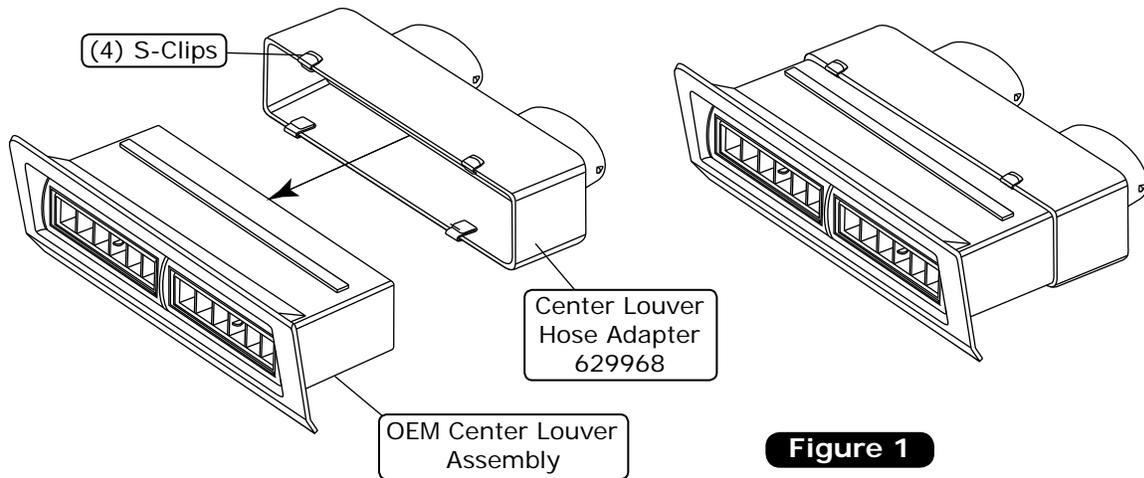

Figure 1
2. Install the 90° fitting from the #6 drier/evaporator A/C hose onto the expansion valve on the evaporator unit using a properly lubricated #6 O-ring (See Lubricating O-rings, Page 19 and Figure 1, below).
3. Install the heater hose and a hose clamp onto the upper heater hardline on the evaporator unit (See Figure 1, below).
4. Install the lower heater hose and a hose clamp onto the lower heater hardline on the evaporator unit (See Figure 1, below).
8. Install the 90° female fitting from the #10 compressor/evaporator A/C hose onto the evaporator unit using a properly lubricated #10 O-ring (See Lubricating O-rings, Page 19 and Figure 1, below). **NOTE: After installing the #10 compressor/evaporator A/C hose, wrap all exposed metal with the supplied press tape. (See Figure 1, below).**
1. Install (4) S-clips onto the center louver hose adapter as shown in Figure 1, below.
2. Install the center louver hose adapter onto the center louver assembly (See Figure 1, below).